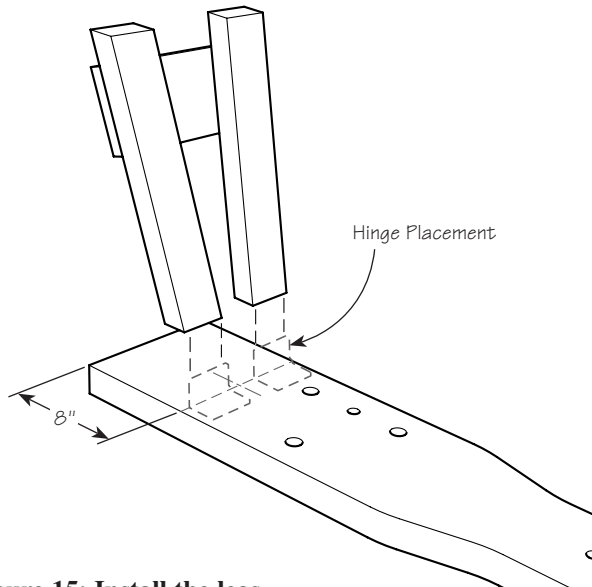

Figure 15: Install the legs.
3. Lay out leg location on the bottom of the plank (A) as shown in **Figure 15**. Prop or clamp the legs in place. Hold the hinges in place and mark screw locations on the bottom of the plank and the legs. Drill pilot holes as required. Install the hinges.